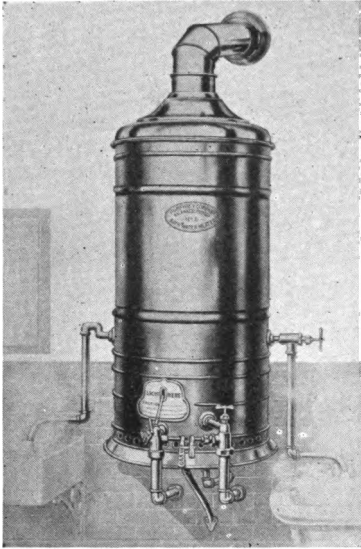

FIG. 71. Instantaneous water heater.
**145. Instantaneous Water Heaters.** The instantaneous water heater (Fig. 71) is